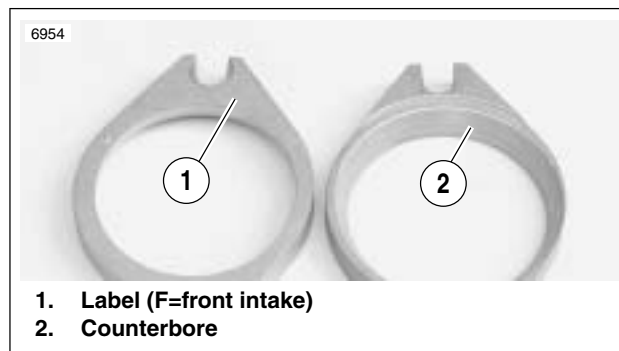

Figure 4-105. Intake Flanges
1. See Figure 4-105. Install front and rear intake flanges onto manifold with the counterbore facing out. Each intake flange is labeled and the pieces are not interchangeable.